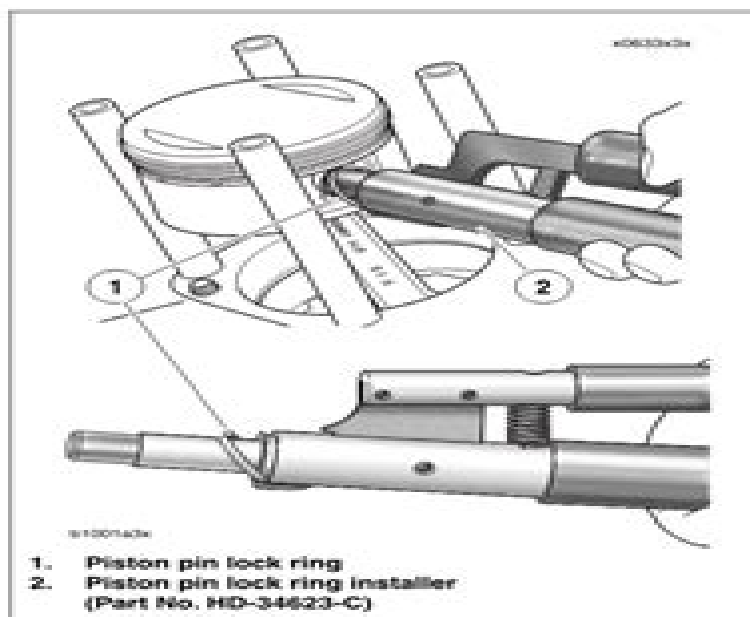

Figure 3-21. Removing Piston Pin Lock Ring
7. See Figure 3-21. Remove piston pin lock ring as follows: